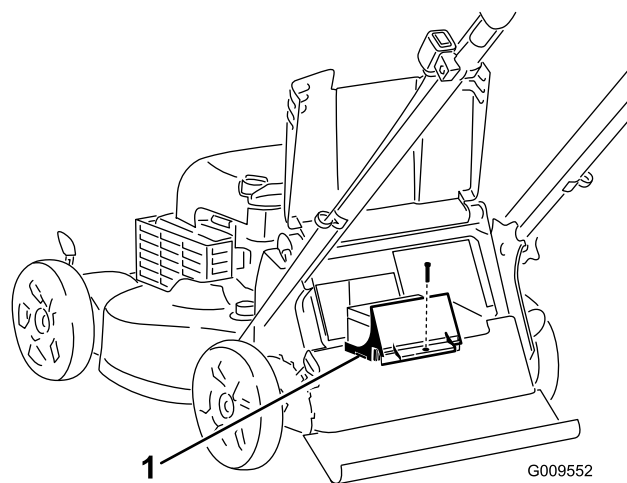

**Figure 6**
2. Remove the screw that secures the battery compartment, pull out the battery, and locate the fuse (Figure 5 and Figure 6).
3. Insert the fuse into the fuse holder (Figure 6).